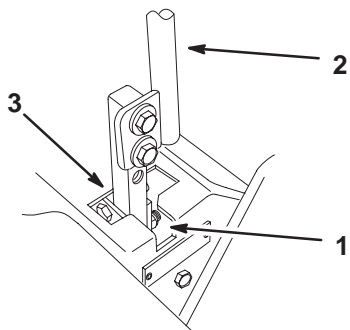

Figure 56
7. Check where the control lever is relative to notch in console (Fig. 56). It should be centered allowing lever to pivot outward to the neutral lock position.
9. Apply slight rearward pressure on the motion control lever, turn the head of the adjustment bolt in the appropriate direction until the control lever is centered in neutral lock position (Fig. 56).